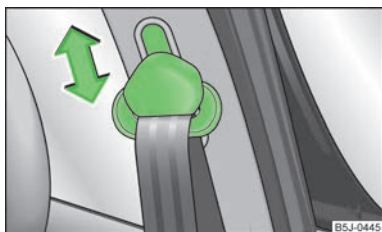

Fig. 98
- Press the height adjuster and move up or down in the desired direction » Fig. 98.